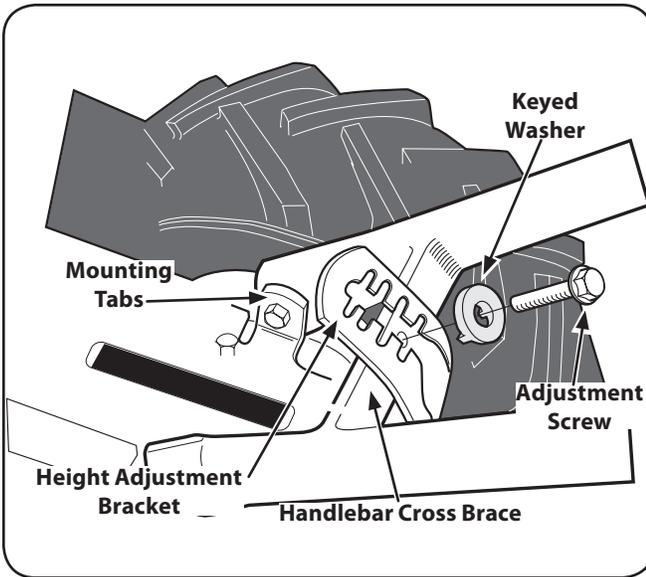
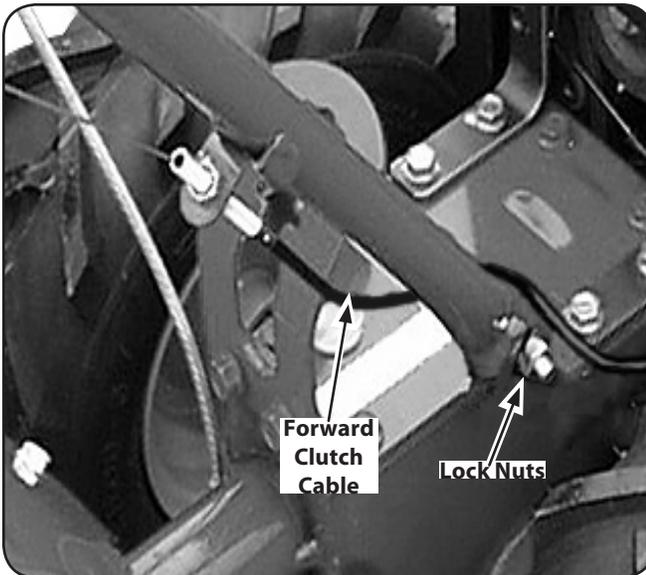

Figure 3-2
Figure 3-3
3. Gently lift the handlebar (do not overstretch the attached cable) and place the handlebar cross-brace in front of the curved height adjustment bracket. See Fig. 3-2.
4. With the forward clutch cable on the inside of the handlebar (See Fig. 3-3), position the handlebar ends on the outside of the two mounting tabs shown in Fig. 3-2 on the transmission top cover.
NOTE: The curved handlebar height adjustment bracket appears as shown in Fig. 3-2 for non-electric start tillers. For electric start machines, the bracket is loosened and moved to one side.
5. Loosely attach the handlebars to the mounting tabs with two $\frac{3}{8}$ -16 x 1" screws (heads of screws go to inside of tabs), $\frac{3}{8}$ " flat washers and $\frac{3}{8}$ "-16 lock nuts. See Fig. 3-3.
7. Move the handlebars up or down to align the threaded hole in the crossbrace with one of the four slots in the curved height adjustment bracket. Place the keyed washer on the flange head height adjustment screw with the raised edges of the washer facing down. See Fig. 3-2.